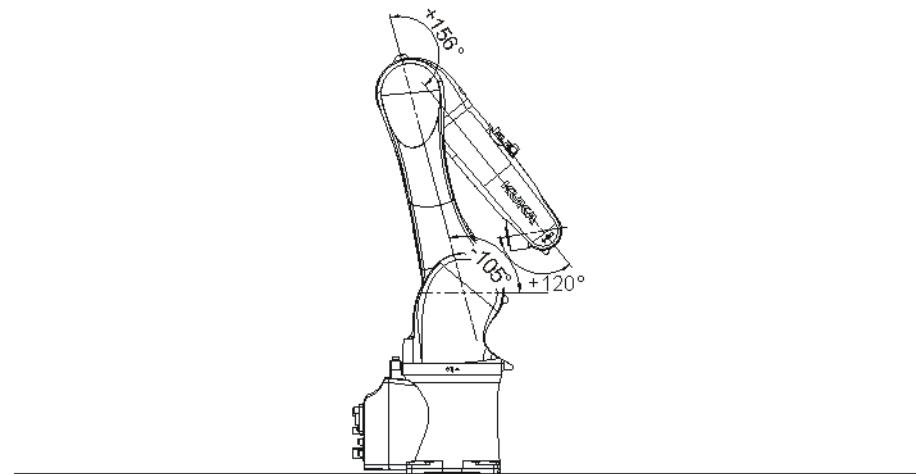

Fig. 11-6: Transport position
3. Put the robot into operation and move it into the transport position (**>>> Fig. 11-6**).